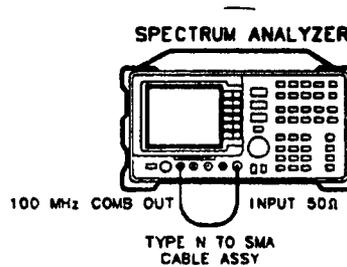

Figure 2-19. CAL MXR Adjustment Setup
2. Connect the 100 MHz COMB OUT to INPUT 50 Ω using the CAL YTF cable (Type N to SMA cable). Refer to Figure 2-19.